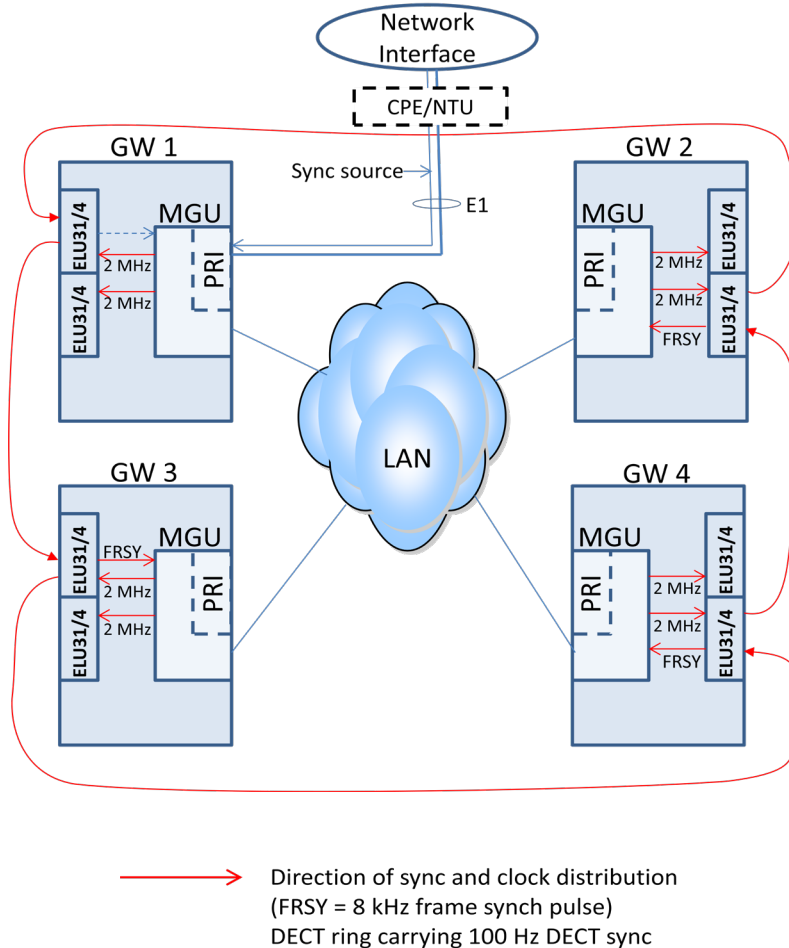

Figure 1
- In figure 1 the boards in GW1 can receive the reference timing from the MGU clock or the PRI trunk in GW1. However, if you have a PRI/BRI clock source with good quality it shall be used as reference timing source in first hand. The ELU31/4 board in GW 1 is configured to distribute both System sync and DECT sync to next GW (GW 2). The ELU31/4 DECT ring board in GW 2 is configured to connect System sync and DECT sync to GW 2 and distribute System sync and DECT sync to next GW (GW 3) etc. The other GWs (2 – 4) are synchronized to MGW 1 via the RS.422 DECT synchronization cable and the ELU31/4 boards.